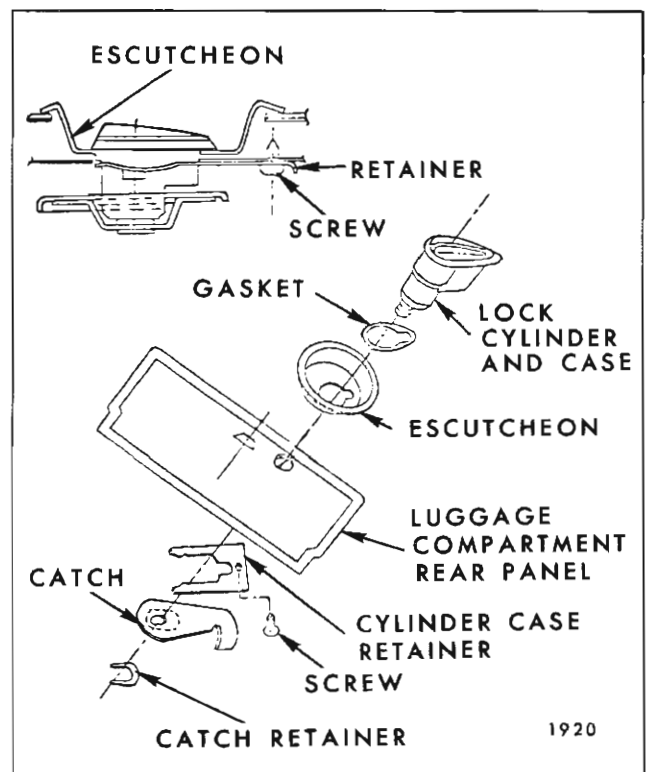

Fig. 1H41—Luggage Compartment Lock 15000 and 16000 Series
2. Remove catch cover screws and remove cover (Fig. 1H40).
3. Remove three screws securing catch to seat back frame and remove catch assembly from seat back (Fig. 1H40).
IMPORTANT: To assure proper operation of the folding second seat back the catch assembly should be installed and, where necessary, adjusted for a minimum gap of 1/64 inch to a maximum gap of 3/16 inch between bottom of slot in catch and catch striker when seat back is in full "up" position (Fig. 1H40).